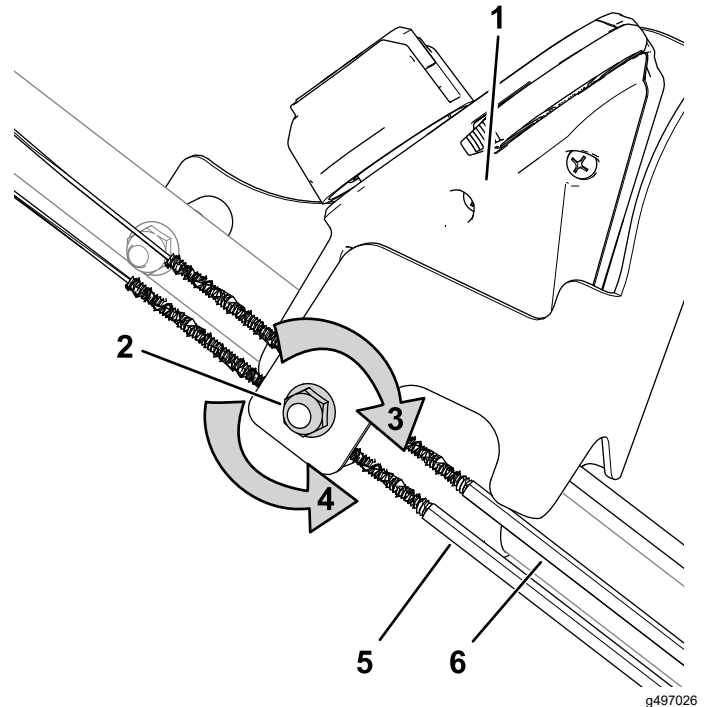

Figure 27
1. Turn the adjustment nut counterclockwise to loosen the cable adjustment (Figure 27).
2. Adjust the tension on the cables (Figure 27) by pulling them back or pushing them forward and holding them in that position.